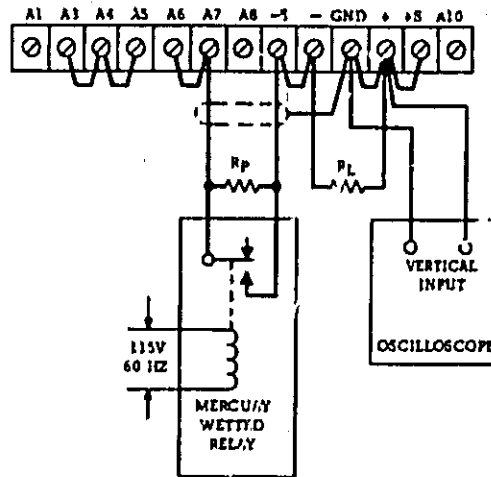

Figure 5-10. Constant Voltage Programming Speed, Test Setup
**5-32 Programming Speed.** This measurement is made by monitoring the output voltage with an oscilloscope while rapidly changing the remote programming resistance. For up-programming, the remote resistance is varied from zero ohms to the value that will produce maximum output voltage; and for down-programming, the remote resistance is varied from the value that will produce maximum output voltage to zero ohms. To check the up-programming speed, make the connections indicated in Figure 5-10; for down-programming, simply remove  $R_L$ . The load resistance is included for up-programming and removed for down-programming to present the worst possible conditions for the supply to reach the programmed voltage. Refer to Application Note 90, Power Supply Handbook for further details on remote programming speed. To check the programming speed, proceed as follows:
1. Restrap the rear barrier strip as indicated in Figure 5-10. Note that the jumper between +S and A10 is removed. This disconnects the output capacitor C20 to increase the programming speed. A minimum amount of output capacitance (C19) is permanently wired to the output and should not be removed, because the supply could oscillate under certain load conditions. The programming speed increases by a factor of from 10 to 100 when the output capacitor C20 is removed.
2. Connect the relay, oscilloscope, and programming resistor  $R_p$  as illustrated in Figure 5-10. Select the value of the programming resistor that will produce maximum output voltage of the supply. This value is obtained by multiplying the programming coefficient (200 ohms/volt) by the maximum rated output voltage of the supply.